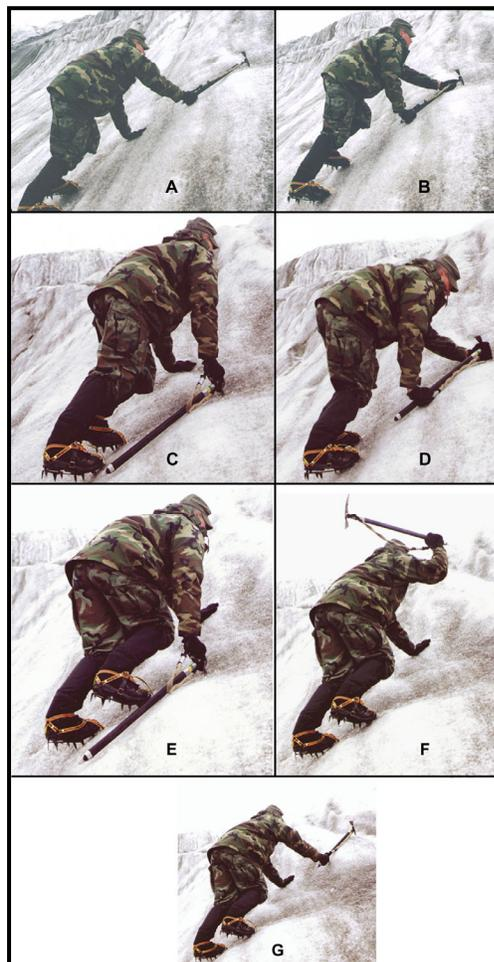

Figure 10-12. Climbing sequence.
- (2) **Ice Ax.** Use the ice ax in these situations:
e. **Climbing Sequence.** Using most of these positions, a single ax can be “climbed” in steps to move upslope on low-angle to near vertical terrain (Figure 10-12). Begin by positioning the feet in a secure stance and placing the ax in the hammer position as high as possible. Slowly and carefully move the feet to higher positions alternately, and move the hand up the ax shaft. Repeat this until the hand is on top of the head of the ax. Remove the ax and place it at a higher position and begin again.